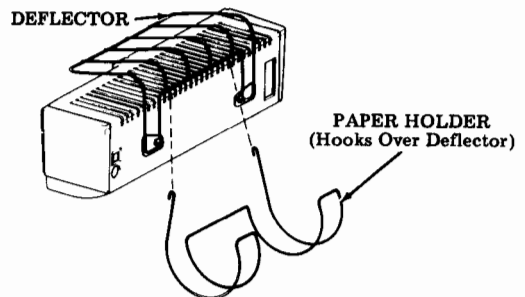

Fig. 4—Paper Holder
- 3.11** Attach the paper holder to the deflector as shown in Fig. 4.